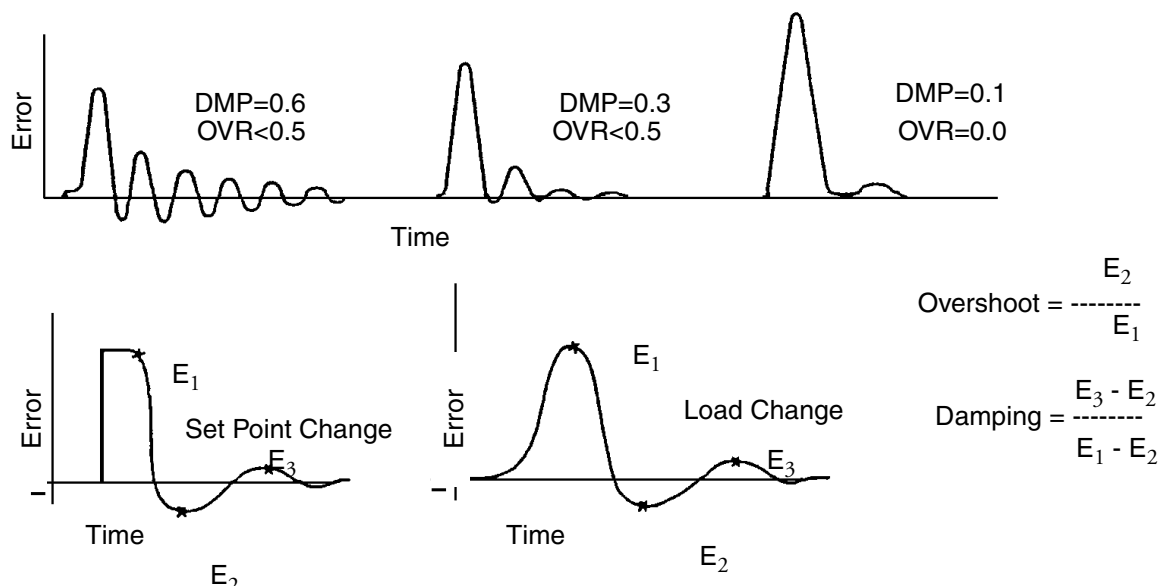

Figure 42. Damping and Overshoot.
4. DMP and OVR (Damping and Overshoot). These parameters are used in combination to create desired response curve. General purpose values are $DMP = 0.3$ and $OVR = 0.5$. In illustrations below, upper set shows typical response curves with various combinations of DMP and OVR. Only one of these objectives is satisfied at a time - the one having the larger measured minus target value. Usually, for load disturbances it is damping, and for set point it is overshoot. Lower set shows details for calculating these parameters. See Figure 42